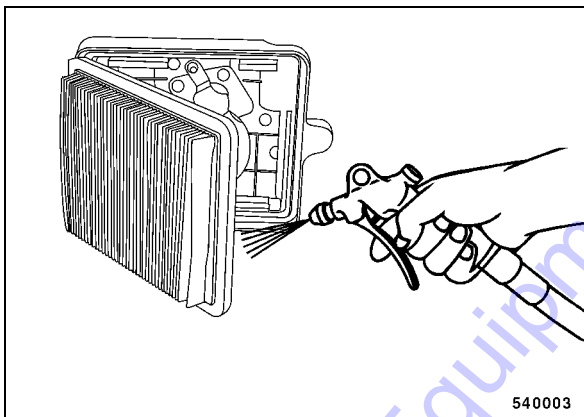

Fig. 58
- If soiled with dry fine dust blow the air filter out from the clean air side (Fig. 58).